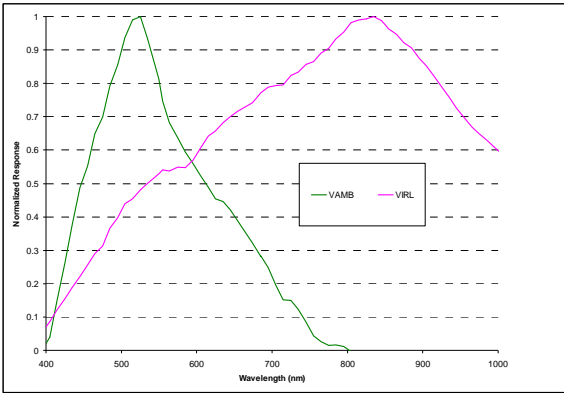

Figure 9. Si1120 Typical Spectral Response
- Added Figures 9, 10, 11, 12, 13, 14, and 15.